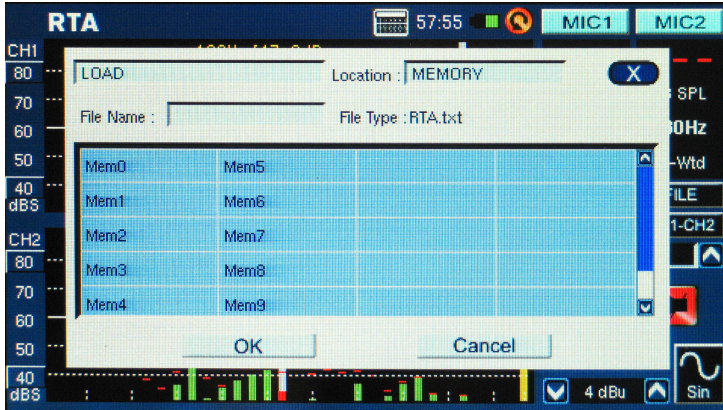

figure 61
2. Select LOAD from the pull-down menu found at the top right-hand side of the page (figure 61).